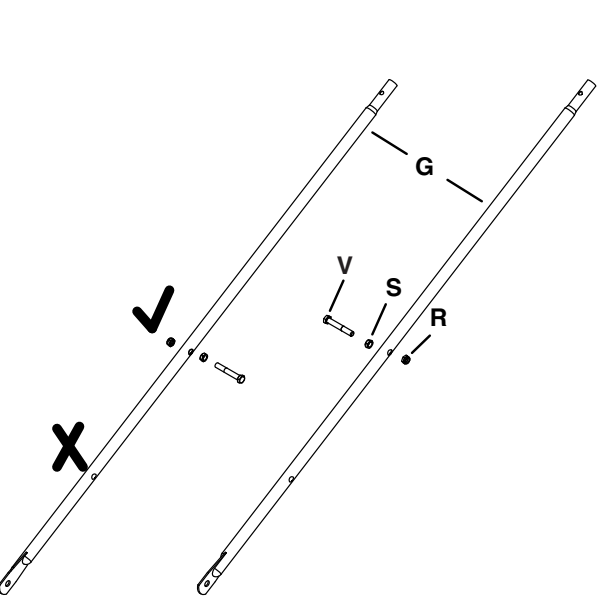

Figure 6
STEP 6: (SEE FIGURE 6)
- Attach a 3/8-16 x 2-1/2" hex bolt (V), 3/8" jam nut (S), and 3/8" nylock jam nut (R) to each upper hopper tube (G).